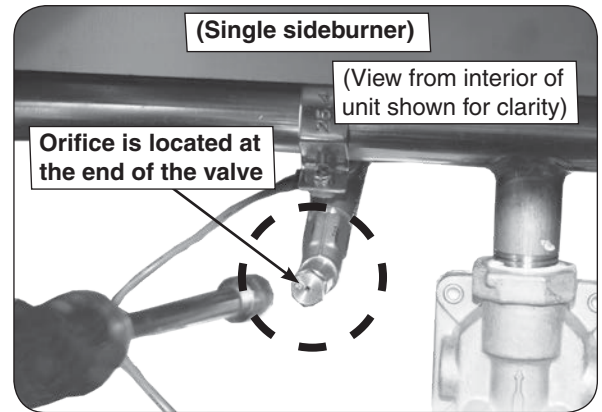

Fig. 32-1 Single sideburner orifice location
4. Using a $\frac{3}{8}$ " socket nut driver, remove the orifice from the orifice holder (see Fig. 32-1) and check the number stamped on the orifice face.